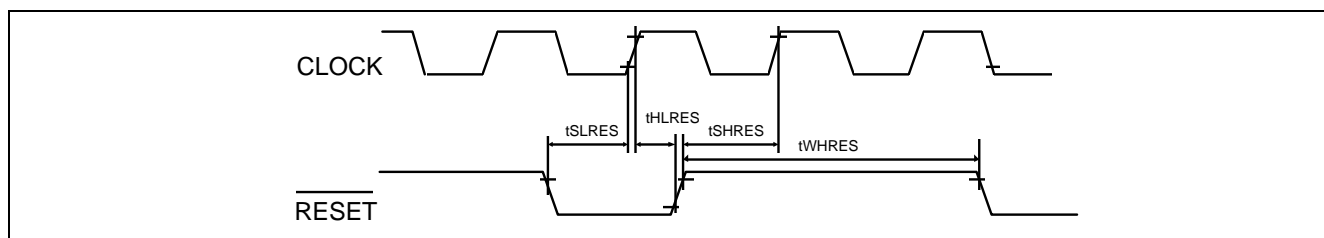

Figure 5 Reset Timing
**Reset Timing Characteristics (Figure 5):** Operation over recommended temperature and voltage range